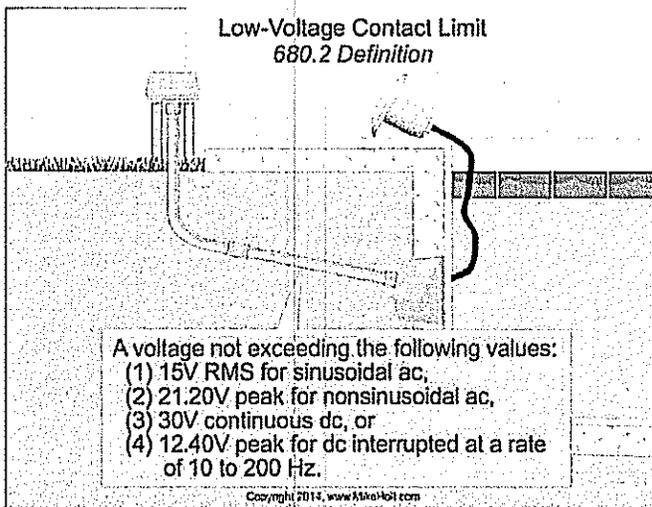

Figure 680-4
**Low-Voltage Contact Limit.** A voltage not exceeding the following values: Figure 680-4